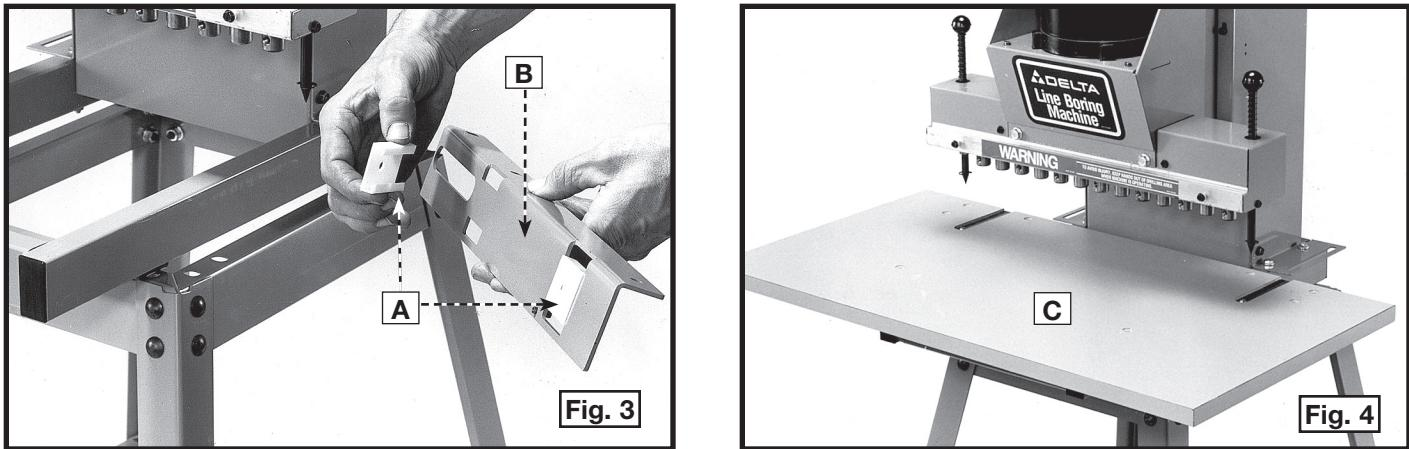

Fig. 4
3. Center the table (C) Fig. 4 on the machine frame.